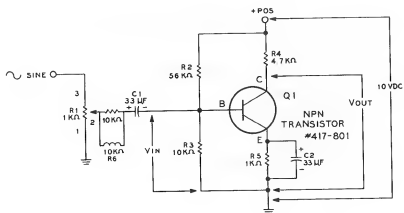
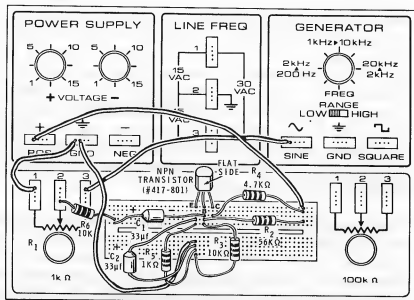

Figure 3-75
Figure 3-76
- Construct the circuit shown in Figure 3-75. You may wire the circuit according to the wiring diagram shown in Figure 3-76, or you may use any wiring arrangement you choose. Your experimental circuit is a simple common-emitter amplifier which uses voltage-divider bias, provided by the 56 kilohm resistor (R_2) and the 10 kilohm resistor (R_3). R_3 and C_2 are also bias components. The 4.7 kilohm resistor (R_4) serves as the output load resistor. The Sine (sine wave) output from your signal generator is applied to the 1 kilohm potentiometer (designated as R_1). Potentiometer R_1 may be used to control the amplitude of the AC voltage sine wave provided by the generator. The AC voltage taken from the arm or center terminal (terminal 2) of the potentiometer is applied through a 10 k Ω resistor (R_6) and a 33 microfarad coupling capacitor (C_1) to the input of the amplifier circuit. R_6 is used to further lower the input voltage to Q_1 . This variable AC sine-wave voltage will be used as the AC input signal voltage (V_{in}).